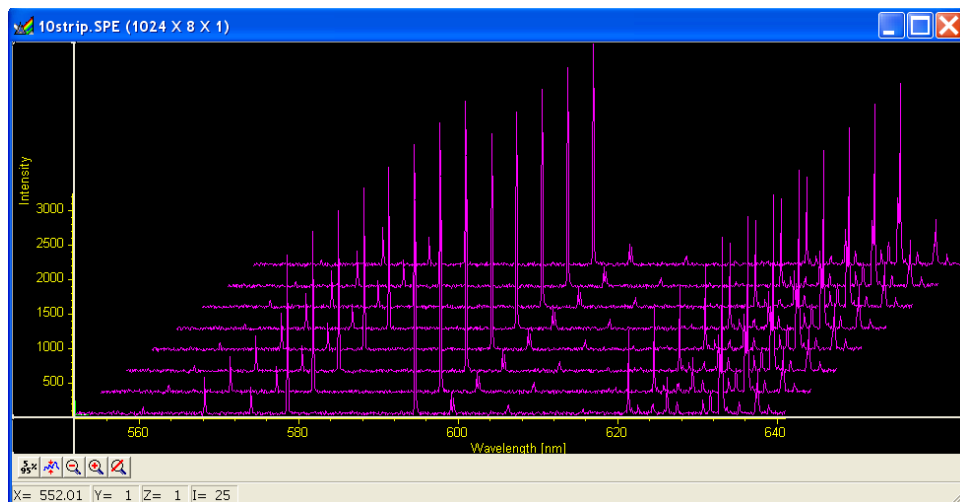

Figure 70. 3D Image display of eight data strips
- If there are at least three data strips but less than eleven, the data will be plotted as a 3D Graph as shown in Figure 70.